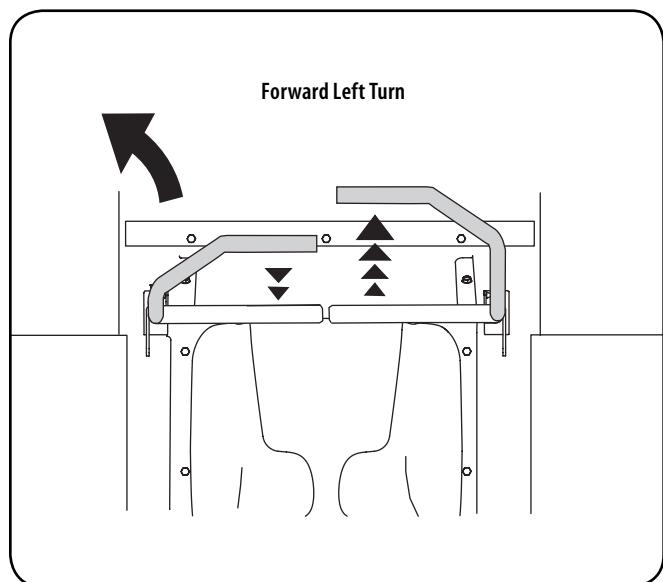

Figure 3
- To turn to the left, move the left drive control lever rearward of the right lever. See Figure 3.